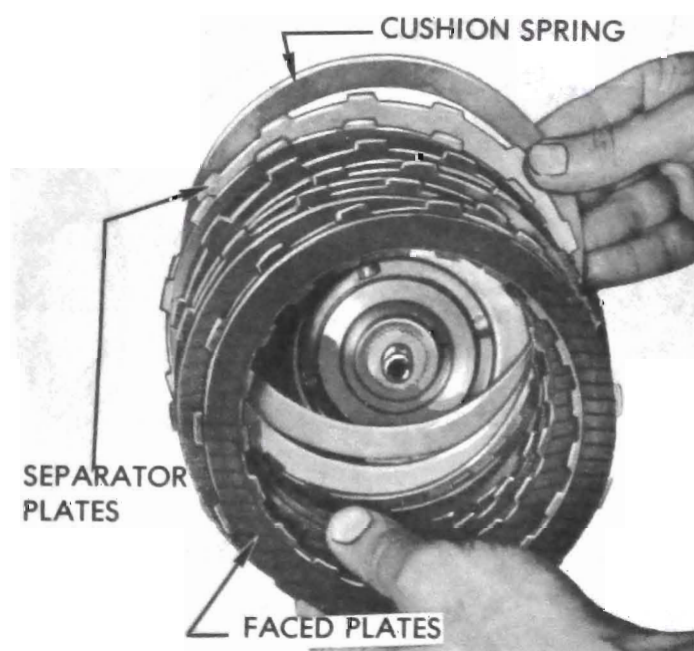

Figure 75-185
2. Remove five (5) forward clutch housing faced plates, five (5) steel plates and cushion spring. See Figure 75-185.
5. Lubricate with transmission fluid and install cushion spring, five (5) faced plates and five (5) steel separator plates, starting with the cushion spring and alternating steel and faced. See Figure 75-185. Forward clutch cushion spring is plain (not color coded).